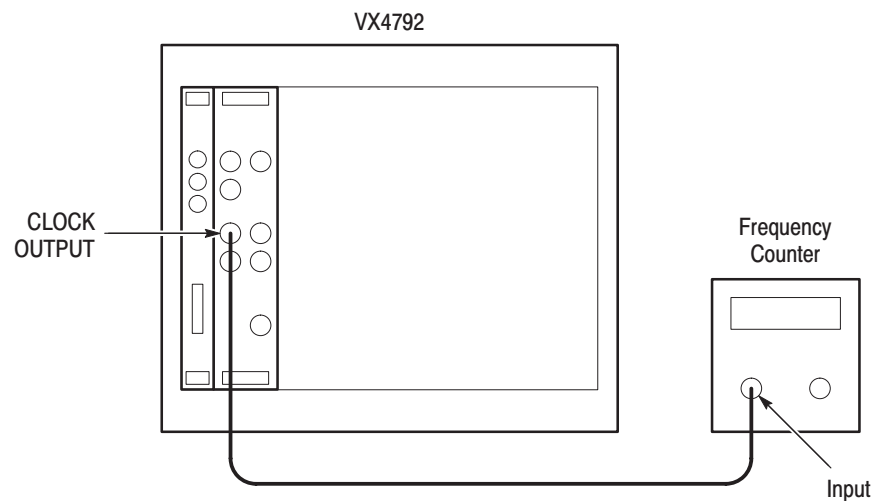

Figure F-12: Clock Frequency Accuracy Initial Test Setup
1. *Install test setup and set test equipment controls (see Figure F-12):*